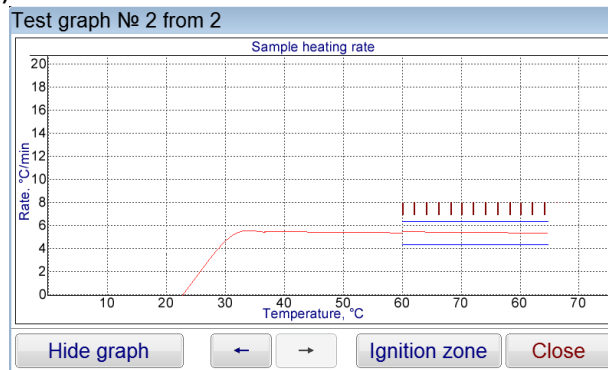

Figure 12 - The graph window of the result
4.6.4.1 Press **“Show graph”** button in the result view window to view the test graph. The screen shows the following (see figure 12):